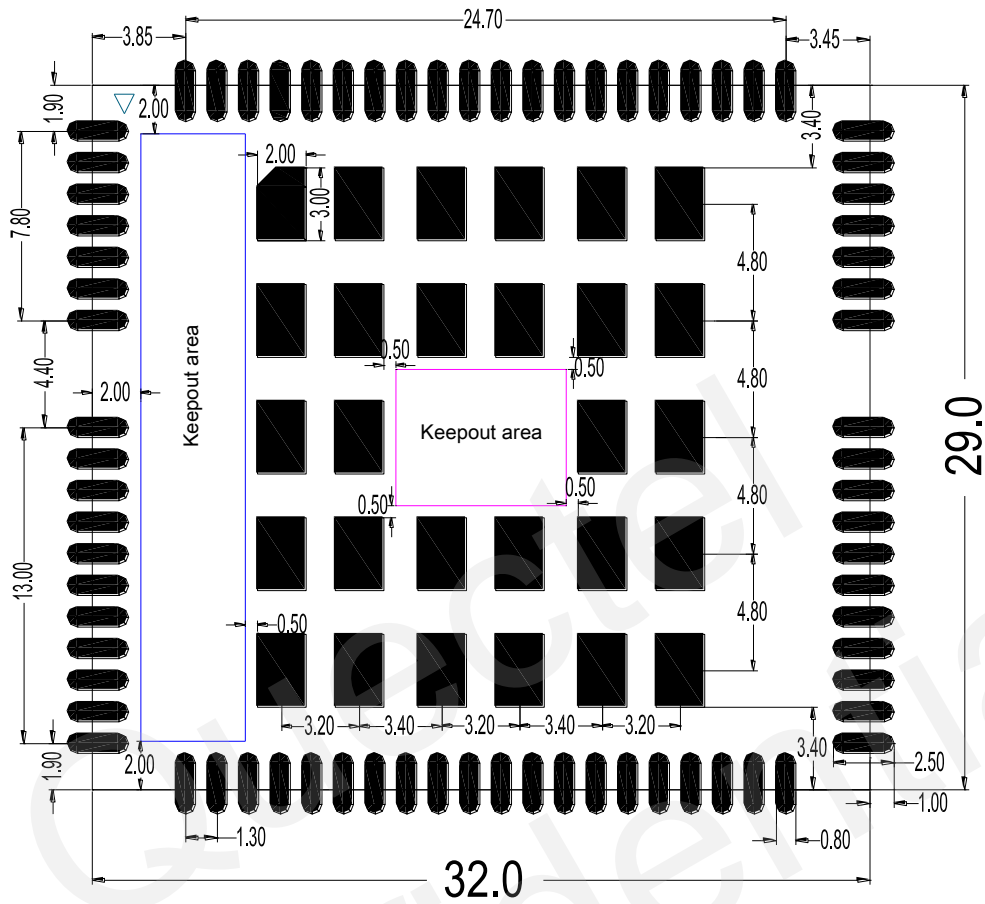

Figure 35: Recommended Footprint without WLAN Function (Top View)
3. The red areas are recommended footprint shown in Figure 35.